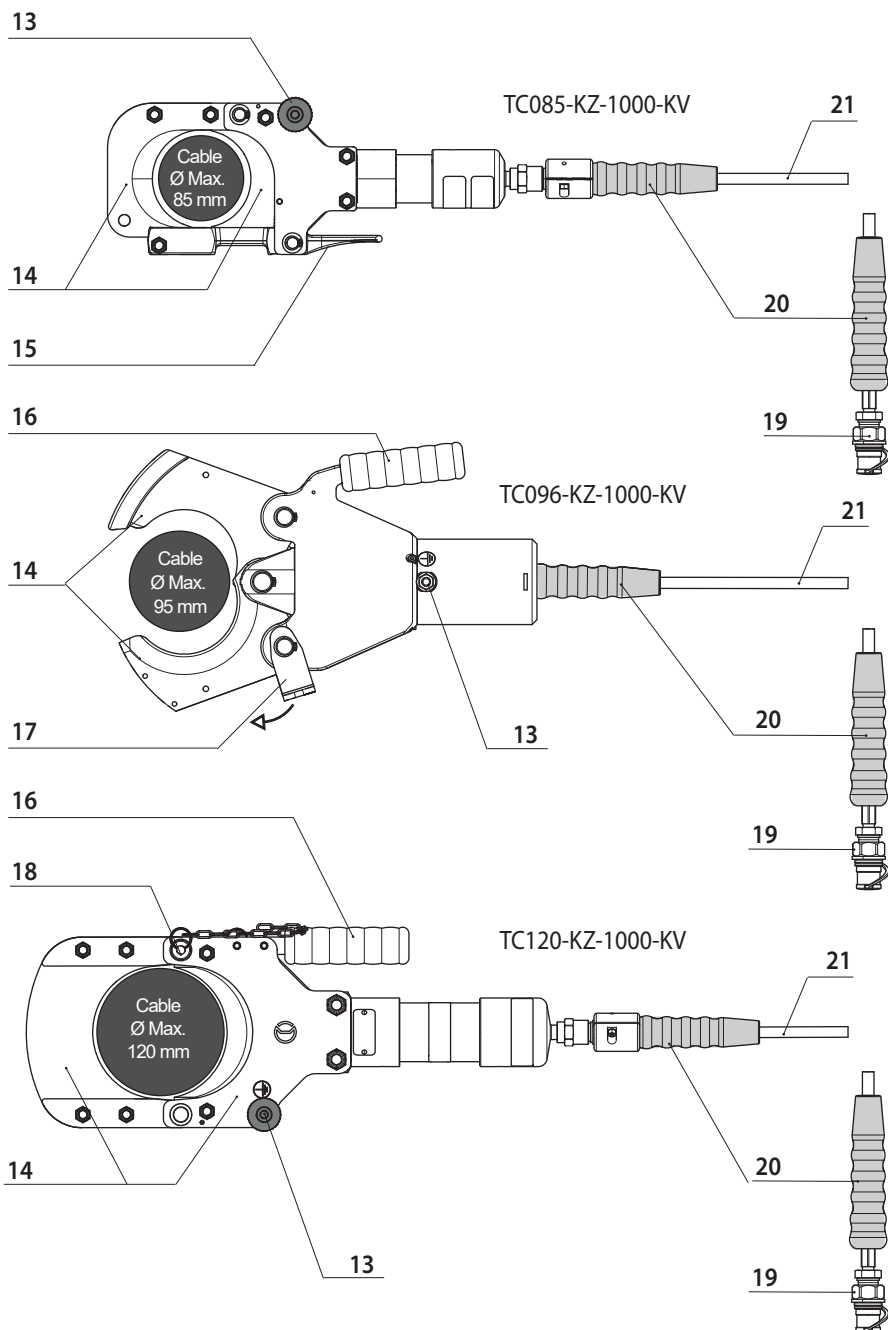

FIG. 4
- **(C) CUTTING HEAD:** must be positioned manually around the cable to be cut. Equipped with a flexible hose directly connected to the head. Depending on the insulated cable cutter, it is possible to have three types of head suitable for cutting cables with different diameters. A earthing point is provided to facilitate grounding of the cutting head when required.
- **(D) PORTABLE HYDRAULIC PUMP:** driven by an 18 V battery powered electric motor. An Electronic Pressure Sensor (EPS) ensures precision and repeatability of the work cycles and a maximum pressure valve to ensure maximum operator safety. A earthing point is provided to facilitate grounding of the pump when required.
- **(E) RECHARGEABLE BATTERY:** 18 V - 8.0 Ah high capacity Lithium Ion battery. Provides 100% of its energy between -15 and +50 °C (+5 and +122 °F). Electronic control of the individual cells to prevent over-charging and under-discharging. Greater longevity and ventilated recharging in short times thanks to AIR COOLED technology. Timed automatic power off to optimize energy consumption. Equipped with LED indicators that indicate the remaining battery life at any time by pressing the button (P) (Ref. to Fig. 4):